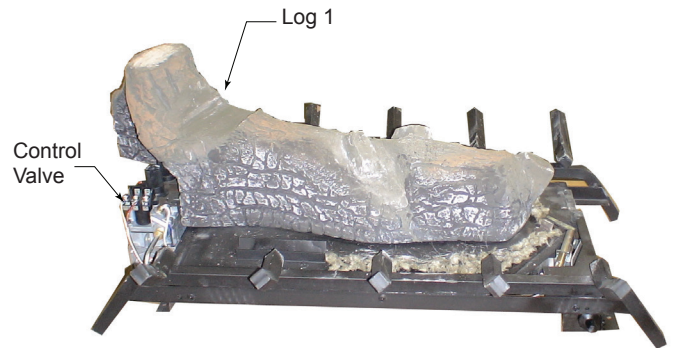

Figure 17 - Place Log #1
1. Place log #1 on burner by aligning two (2) holes on bottom of log with two (2) pins on burner. The tallest part of the log is on the valve side of burner. Gently push log down until it comes in contact with burner surface. *Figure 17*